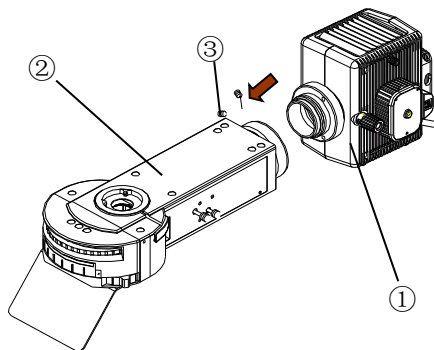

Fig.6
2.5 Assembly of the Fluorescent Attachment (Fig.6)